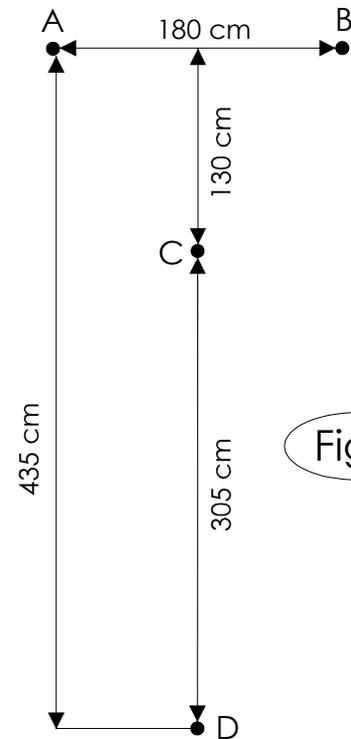

Fig 2
1) Use a measuring tape to mark points A, B, C as shown in Fig 2 starting from the fixing point that you already have (eg. tree, post, wall, etc at point E). If point D is not vertically below point E then you should adjust the distance D-C accordingly (eg. 305-35=270cm where a tree bulges out 35cm at the base).